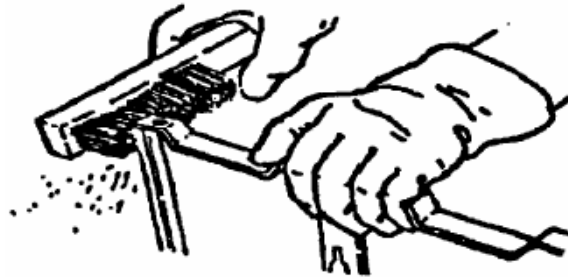

Figure 3-11
- (1) Use a wire brush (Item 1, Appx. B) and clean the corrosion, cracked paint and dirt from the battery hold-downs. (see Figure 3-11).